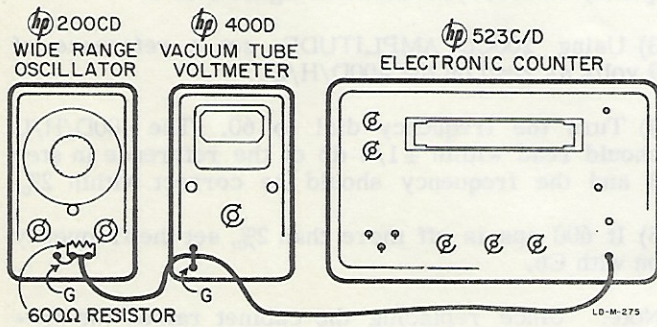

Figure 1. Calibration Test Setup
- 2) Connect the 200CD to a 400D/H/L AC Voltmeter and a frequency measuring device (counter or frequency standard) as shown in figure 1 or 2.
- 1) Switch 200CD RANGE to X100. Connect the equipment as shown in figure 1 or 2.